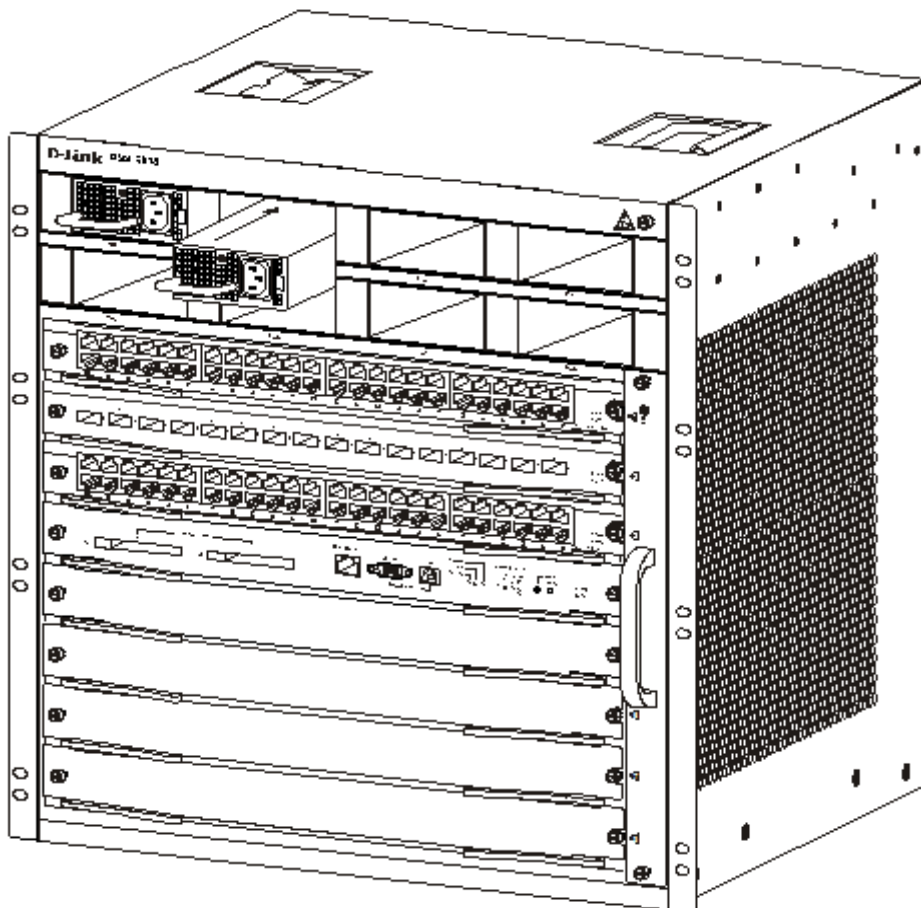

Figure 2-7 Schematic diagram for installing an AC power supply
4. Use both hands to pull the levers on the left and right hand side of the board to remove the board from the DGS-6600 Series Switch, as shown in Figure 2-7